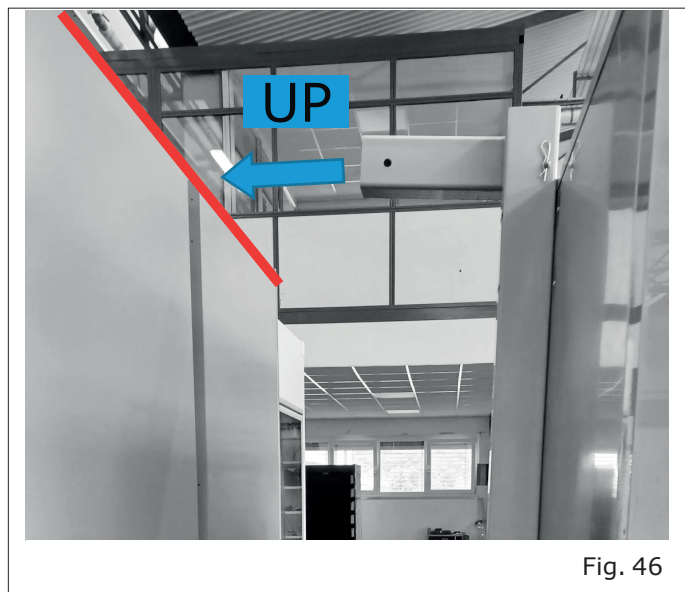
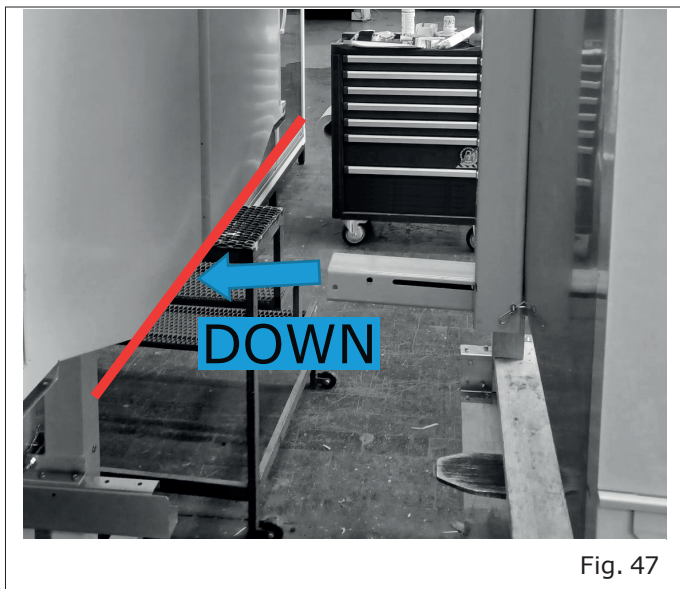

Fig. 46
Fig. 47
- Position the cabinet so that the top spar is above the roof line of the gondola ("Fig. 46") and that the lower spar is below the line of the gondola tub ("Fig. 47 , Pag. 31").